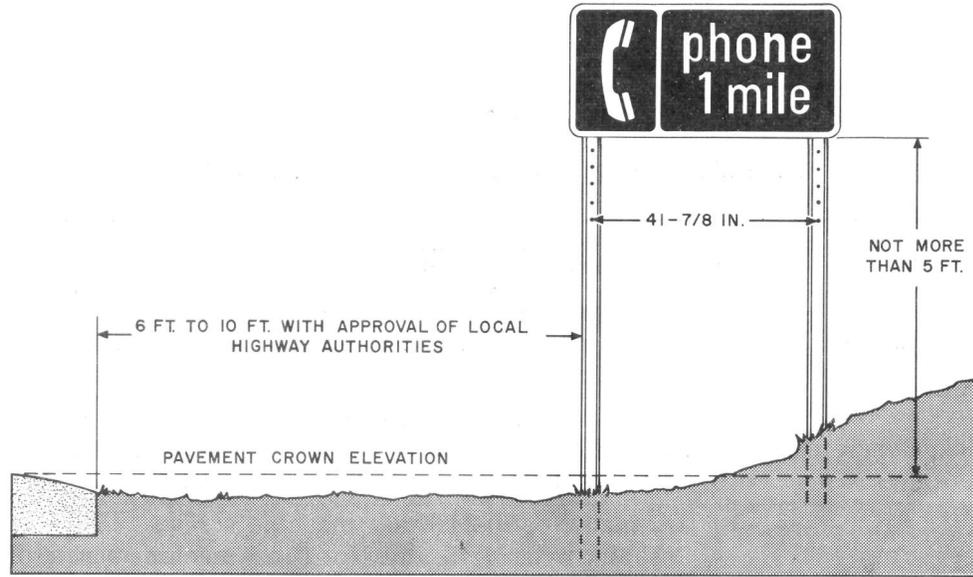

Fig. 17—KS-20065, List 1 Installation
3.07 Install KS-20065 signs in accordance with Fig. 17.